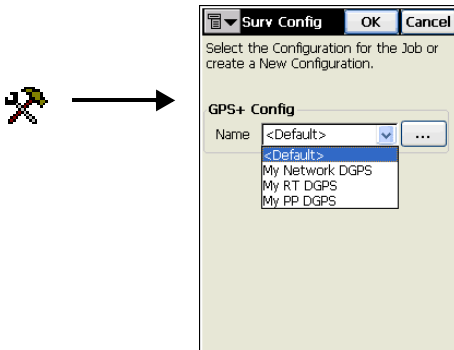

Figure 2-4. Select Survey Configuration
Once a survey configuration is created and saved, it can be selected for any future use (Figure 2-4).
1. Press the **Config** button on the TopPAD toolbar to display the *Surv Config* screen (Figure 2-4).